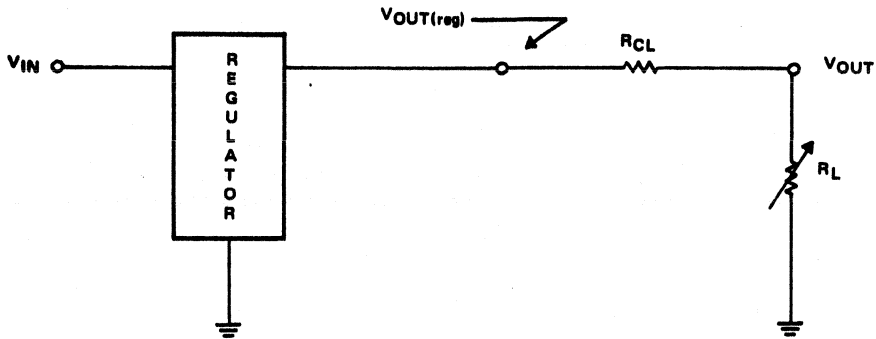

Figure 4.3. Series Resistance Current Limiter
**Series Resistor** – This is the simplest method for short-circuit protection. The short-circuit current is determined by the current-limiting resistor  $R_{CL}$ , as shown in Figure 4.3.